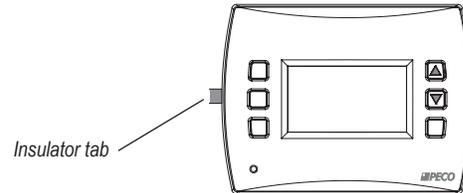

Figure 6. Remove the insulator tab from thermostat before operation.
- Remove the plastic insulator tab from the back side of the thermostat (see Fig. 6). **IMPORTANT:** The insulator tab must be removed before setting the real-time clock.